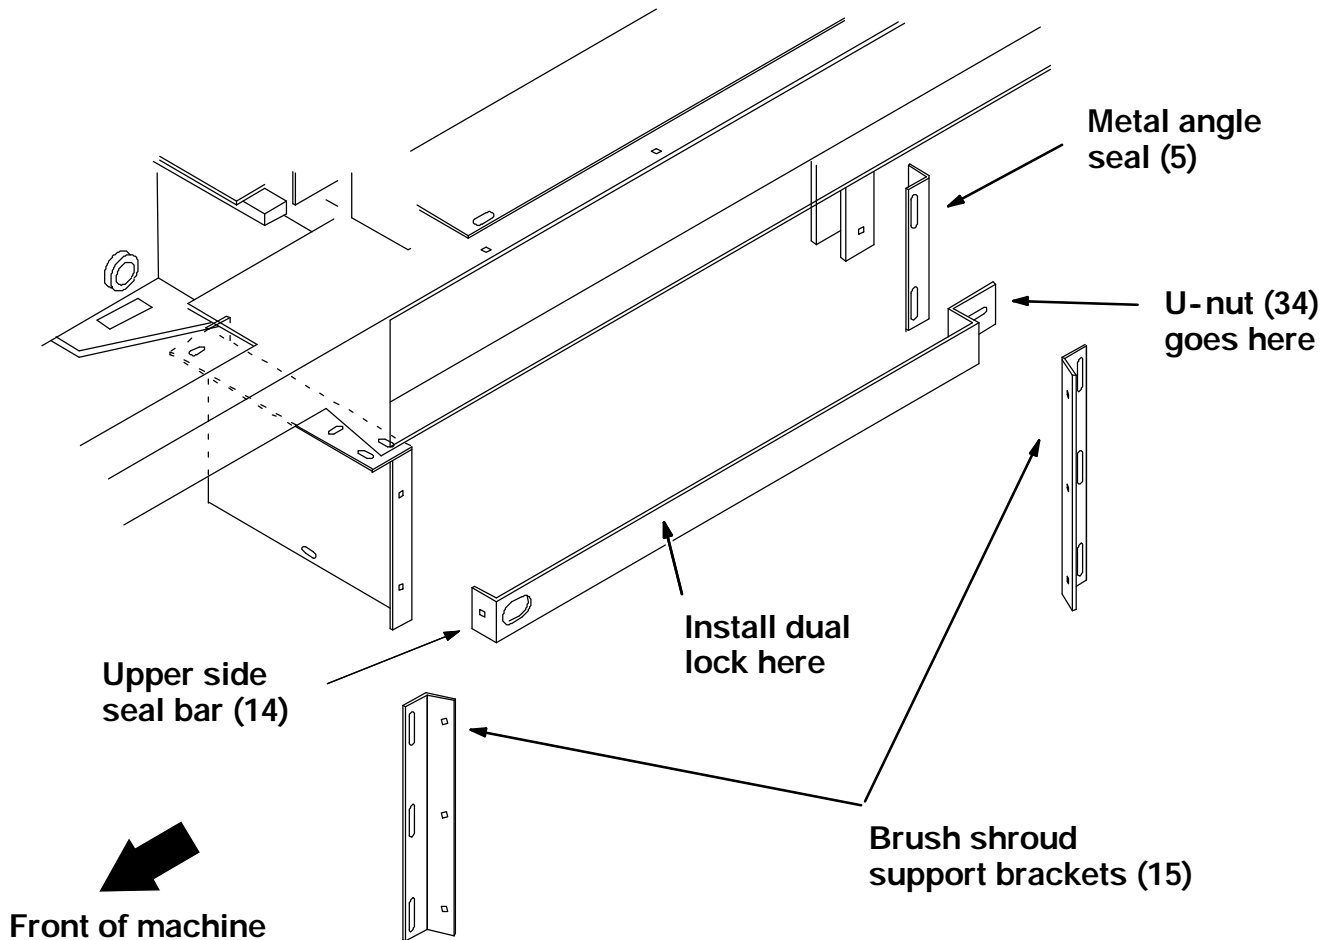

FIG. 5 - Assemble Side Brush Brackets
INSTALL SIDE BRUSH DUST CONTROL ASSEMBLY IN DUAL SIDE BRUSH MACHINE: (Refer to Figures 5 and 6)
3. Install a U-nut (34) in the end of both upper side seal bars (14). (Refer to Fig. 5)
4. Install the upper side seal bars (14) in the machine with the end with the U-nut bolting to the machine frame and the end with the 90° bend bolting to the SBDC upper panel. (Refer to Fig. 5)
5. Cut two strips of the dual lock adhesive (23) the length of the upper side seal bar (14). Peel off the backing and position it both bars.
6. Install the two metal angle seals (5) on each side of the machine frame. (Refer to Fig. 5)
7. Install the four brush shroud support brackets (15) on the machine. (Refer to Fig. 5)
12. Press the straight edge of the top cover (6) to the dual lock adhesive (23) on the upper side seal bar (14). (Refer to Fig. 5 and 6)